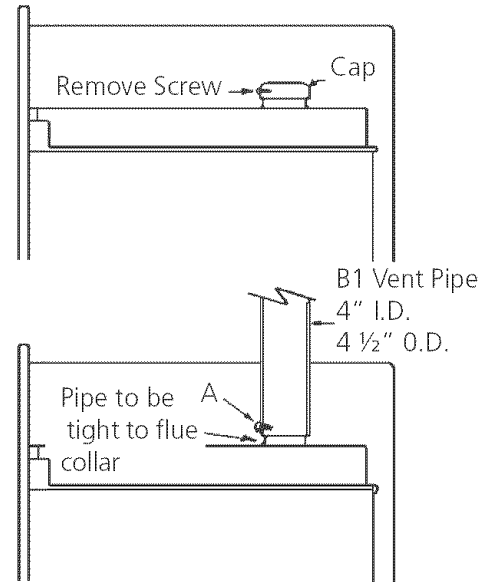

Figure 8
- A. Place the pipe on the vent outlet and drill a $\frac{3}{32}$ " diameter hole at point "A" (see figure 8). Hole must be drilled so that holes in pipe and flue collar line up.
- B. Fasten the pipe to flue collar with one screw. (see figure 8).